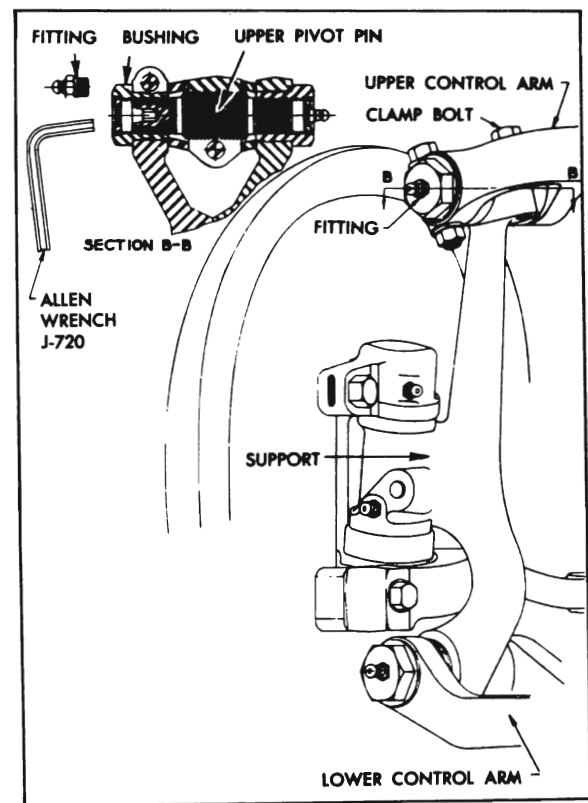

Figure 6-33—Steering Knuckle Support and Pivot Pins
1. Loosen pivot pin clamp bolt on upper end of knuckle support. Remove grease fitting from the clamped type upper pivot pin bushing. This bushing is on front end of the right pivot pin and on rear end of left pivot pin. See figure 6-33.